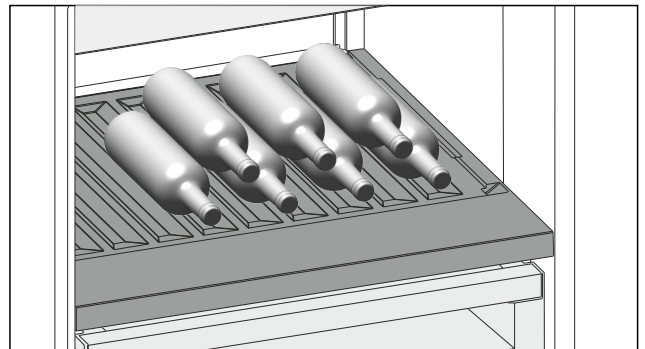

Fig. 145
- Place bottles in the back row with their bases against the back wall. (see Fig. 145)